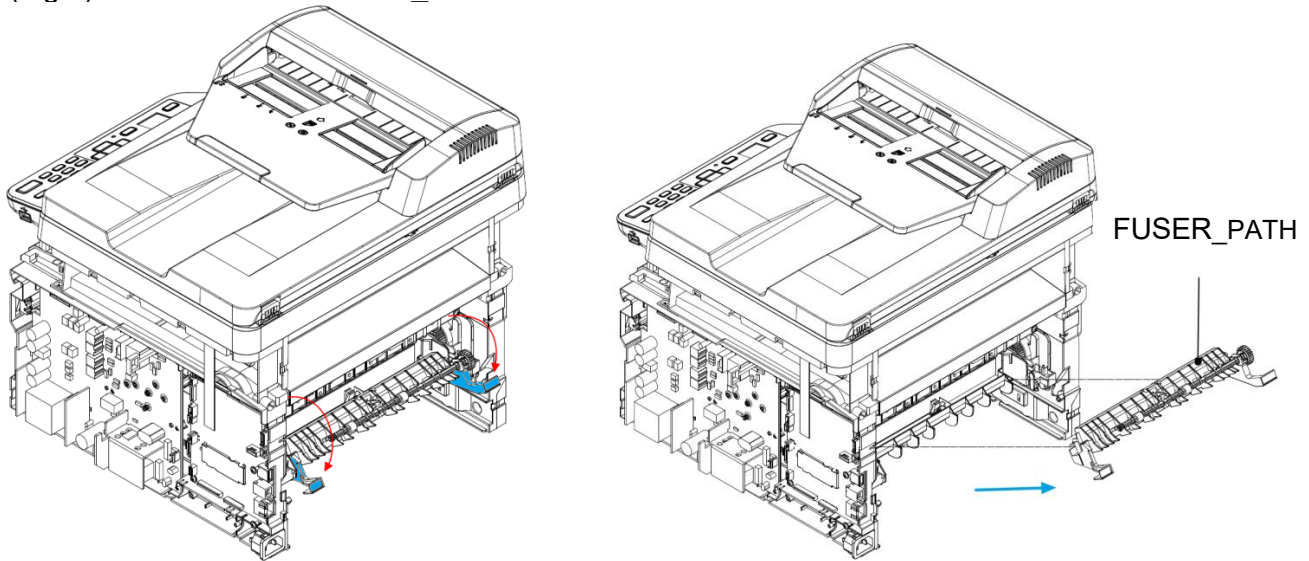
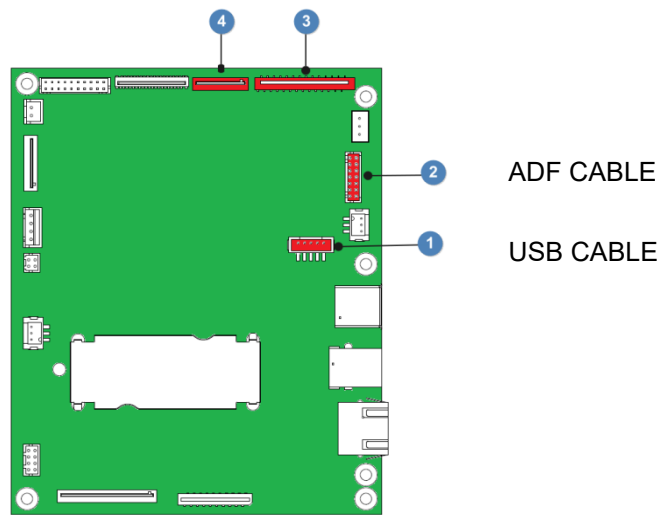

Fig. 1
Fig. 2 .
- (1). Remove Front Cover 、 Main Paper Tray 、 Drum Unit 、 Left Cover 、 Assembling Housing Right.
- (2).(Fig. 1) Pull down the ASSY_REAR_PATH to remove it.
(Fig. 1)
(2).(Fig.1) Press down the FUSER_PATH to remove it.
(2).Fig. 1: Remove two T3X8 screws, Fig. 2 Disconnect two FFC cables and two cables, Fig. 3: Push 4 slots to detach the ADF_FB Scanner.
(Fig.1)